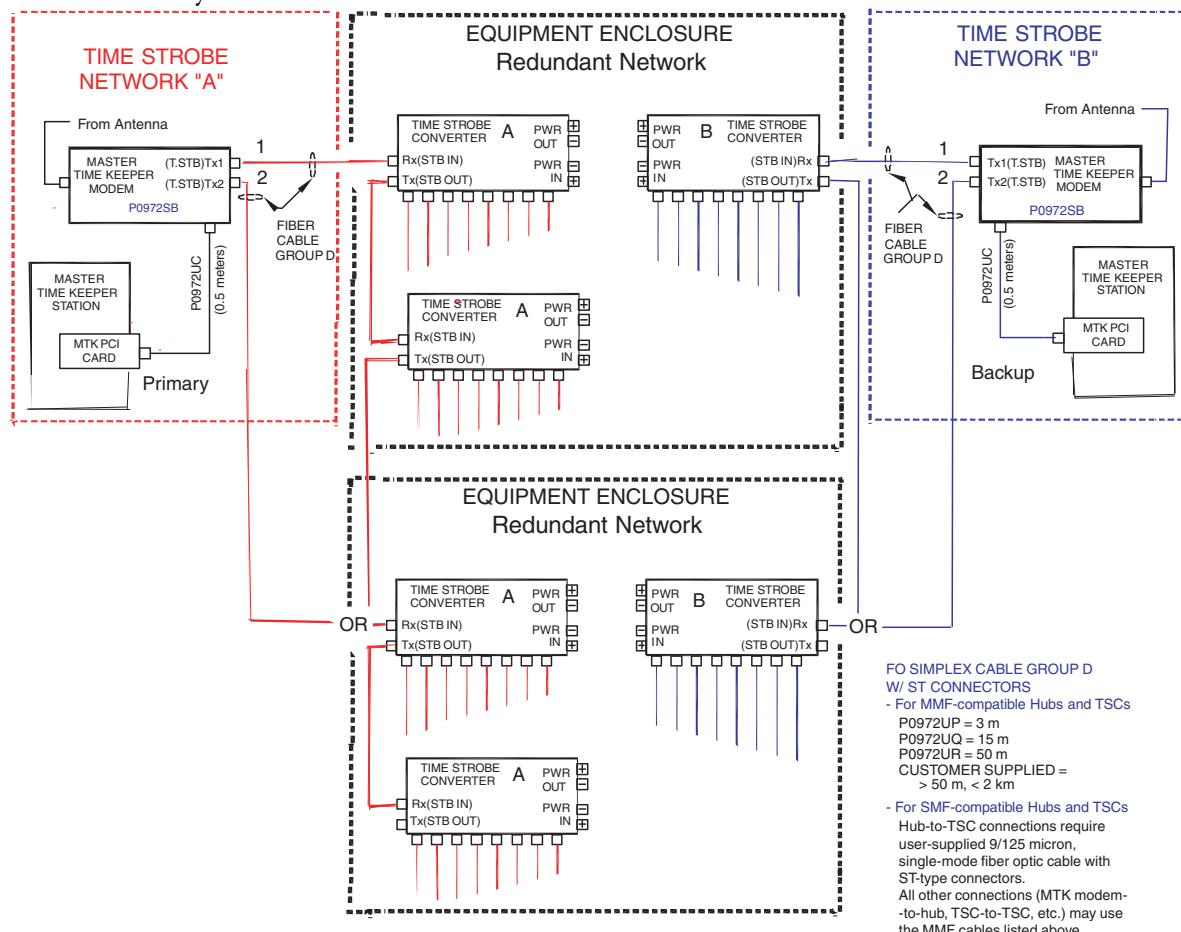

Figure 5-51. MTK Modem to Time Strobe Converter, Cable Connections
2. Connect the Tx1 (STB OUT) from the MTK modem or Txn (Where n equals 2 to 6) from the appropriate Time Strobe Distribution Extender (RH100AM extender with P0972KA TSC, or RH100AN extender with P0973BW TSC) to the Rx (STB IN) of the Time Strobe Converter using the appropriate fiber optic cable (MMF or SMF) from a cable group D (see Figure 5-51).
3. If a second Time Strobe Converter is located in the same enclosure or a close by enclosure, connect the Tx2 (STB OUT) of the Time Strobe Converter to the Rx (STB IN) of the second Time Strobe Converter (P0972KA) using an MMF, simplex cable from cable group D (see Figure 5-51).
4. If another Time Strobe Converter is located in a second enclosure, connect the second Tx2 (STB OUT) from the MTK modem to Tx (STB IN) of the Time Strobe Converter located in the second enclosure (or from the first enclosure - whichever is convenient) using an MMF, simplex cable from cable group D (see Figure 5-51).
The Time Strobe Converter output Tx (STB OUT) can be daisy chained to additional enclosures using MMF, simplex cable selected from cable group D. There is no limit to the number of multi-mode fiber optic cable segments that can be daisy chained except that each segment length cannot exceed 2 km (6562 ft). Each additional enclosure can contain two or more Time Strobe Converters for Time Strobe Network A and B. Use Figure 5-51 as a guideline to connect all Time Strobe Converters in the system. Ensure that Time Strobe Network "A" and "B" remain separate. Use one power source for TSCs "A" and another power source for TSCs "B".